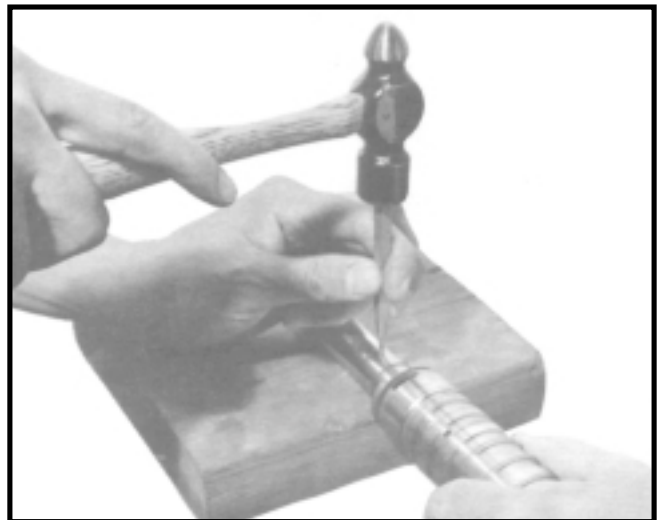
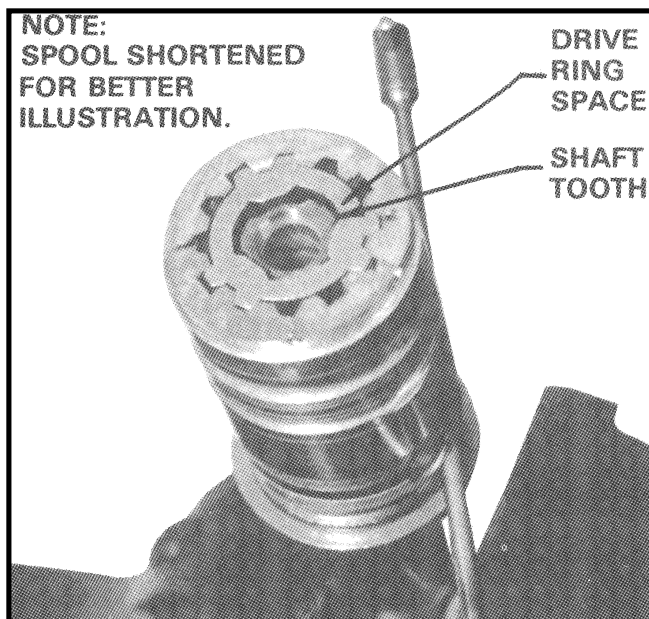
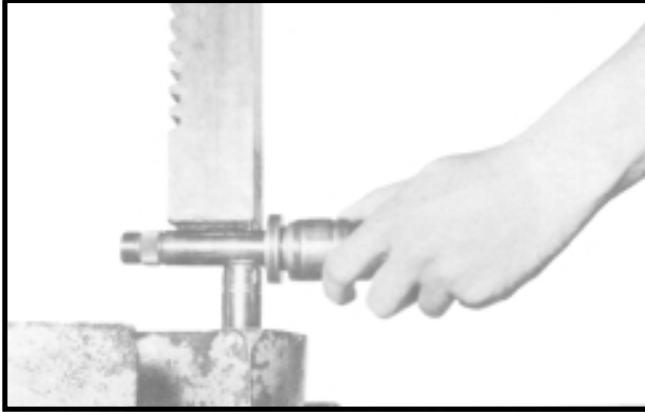

Figure HGA-12
Figure HGA-18
Figure HGA-19
11. Remove the four special cap screws (6) by using a 5/16-12 point socket.
12. Grasp the input shaft (16) and with a smooth upward motion, remove the input shaft (16), upper cover (7) and spool (22) assembly from the housing (25). **Note: Avoid applying side forces to the spool which would cause binding of the closely fitted assembly. Never use excessive force to remove the spool from the housing.**
13. Remove and discard seal (8).
14. Remove the upper cover (7) with shaft seal package (Items 2 thru 5) intact. Remove spacer item (15).
15. Remove shims (9) from either upper cover (7) cavity or from face of thrust washer (11). Count and record the number of shims to aid in reassembly of unit.
16. Remove seal (2), retaining ring (3), using proper snap ring pliers. Discard seal (2). Remove and discard backup washer (4). Remove and discard seal (5).
17. Remove the retaining ring (10), thrust washer (11), thrust bearing (12), thrust washer (13) and spring washer (14) from input shaft (16). **Note: Retaining ring is twisted design. Do not straighten ring.**
18. Remove the needle roller (17) by using a pin punch of .125-inch max. diameter for a minimum of .625 length. The input shaft (16) should be placed on a block of wood (to avoid shaft damage) and the needle roller (21) removed by impact, using light hammer blows. (See Figure HGA-12).
**NOTE: Rotate the input shaft (16) out of the valve spool (22) until input shaft will no longer rotate. There will be a gap of approximately .350 between end of valve spool (22) and thrust washer (13) if the drive ring (18) is assembled properly.**
10. Insert the drive ring (18) into the spool (22) end by visually aligning an internal space on the drive ring with a tooth on the input shaft (16) split, and allow the drive ring to drop to the limit of its travel. If the drive ring does not engage the input shaft spline, a slight rotation of the input shaft will allow the drive ring to become fully engaged. Remove torsion bar (20) gage. (See Figure HGA-18).
11. Install spacer (19) over torsion bar and pin assembly (20) and insert the assembly into the spool (22) end.
12. Align the cross-hole in the torsion bar (20) with the cross-hole in the input shaft (16) and insert a .120 diameter pin punch to maintain alignment.
13. Insert the needle roller (17) into cross-hole in input shaft (16); and while retracting the pin punch, engage the pin in the torsion bar (20) cross-hole.
14. Initiate press of needle roller (17) into torsion bar (20) with a few light impacts. Press needle roller flush with outside diameter of input shaft (16) using a 1/2" drive socket of 11/16 size for supporting the input shaft. (See Figure HGA-19). With a few light impacts on a .120 diameter pin punch, drive needle roller (17) approximately 1/32 below the input shaft (16) O.D. (See Figure HGA-12).